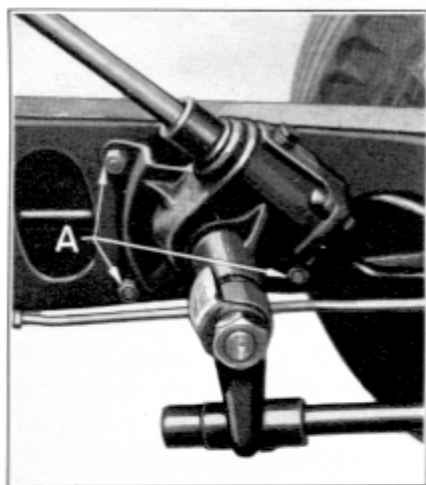

Figure 39
Loosen three mounting bolt nuts (A), Figure 39, reached from inside of frame (mounting bolts are serrated and pressed into frame and no wrench is necessary to hold head) just enough to permit shifting gear housing in frame to line up at angle determined by height setting of instrument panel gear bracket, and retighten nuts. Also loosen instrument panel gear bracket and allow it to shift to match the gear column position, and retighten.